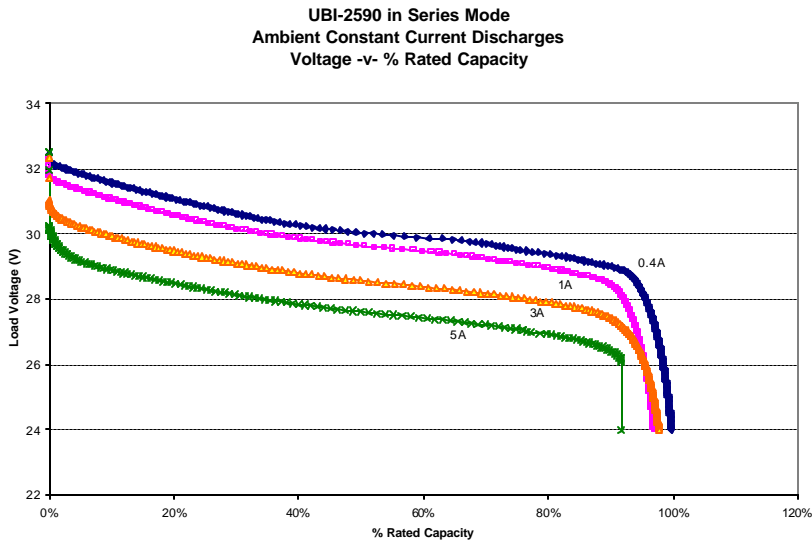

Figure 7
11.5. Series Mode (16.4v) Ambient Constant Current Discharges Voltage -v- Rated Capacity (Figure 7)